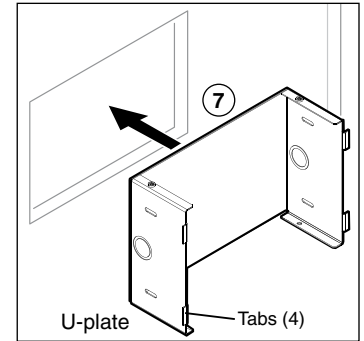

Figure 1.
7. Insert the U-plate into the hole (see figure 1).